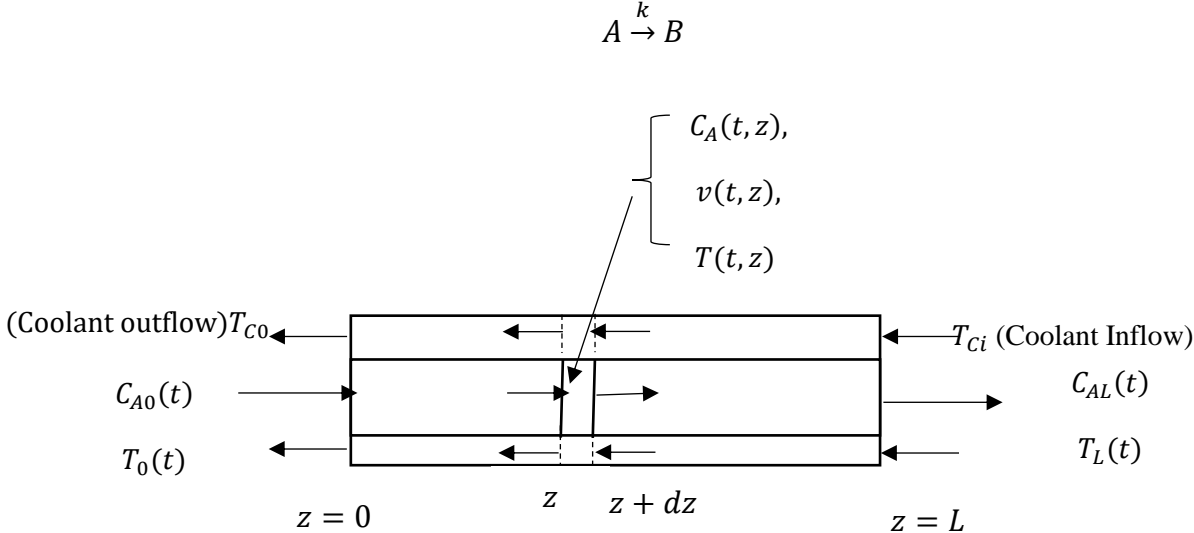

Figure 2: Plug flow reactor with counter-current cooling jacket
Q.6 Consider an exothermic, irreversible first order reaction which takes place in a real plug flow reactor as shown in Figure 2. To remove the heat of reaction λ , a cooling jacket surrounds the reactor. The coolant enters in opposite direction of the feed (counter-current). Feed velocity $v(\text{m/s})$, concentration of reactant $C_A(\text{mol/m}^3)$, coolant temperature T_c and coolant velocity v_c can all vary with time and axial position z . The diffusive flux of A, N_A (mol/s.m^2) is given by Fick's law as 10